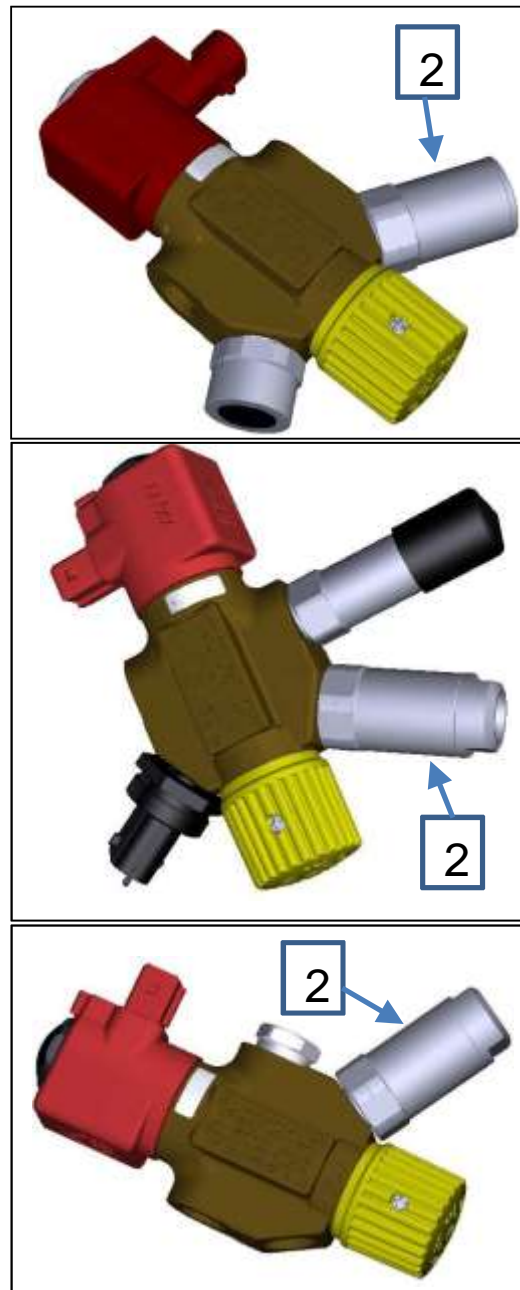

Fig 1
2. Unscrew the PRD Part 2 at **Fig 1**.